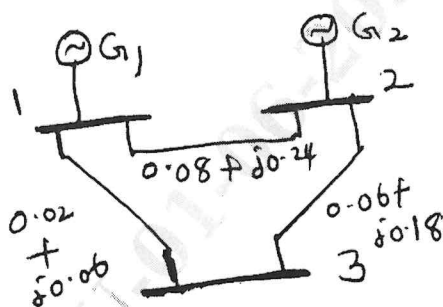

Fig Q3(b)
- b. For the power system network shown below in Fig Q3(b), the line impedances are marked in P.U. The bus data of the power system are shown below table Q3(b). Compute the voltage in all buses other than slack at the end of first iteration, using Gauss – Siedel method. Take $0 < Q_2 < 0.35$ P.U.